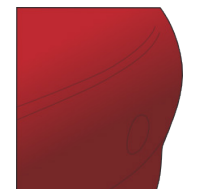

Figure 28
- › The application is finished. (FIG. 28)